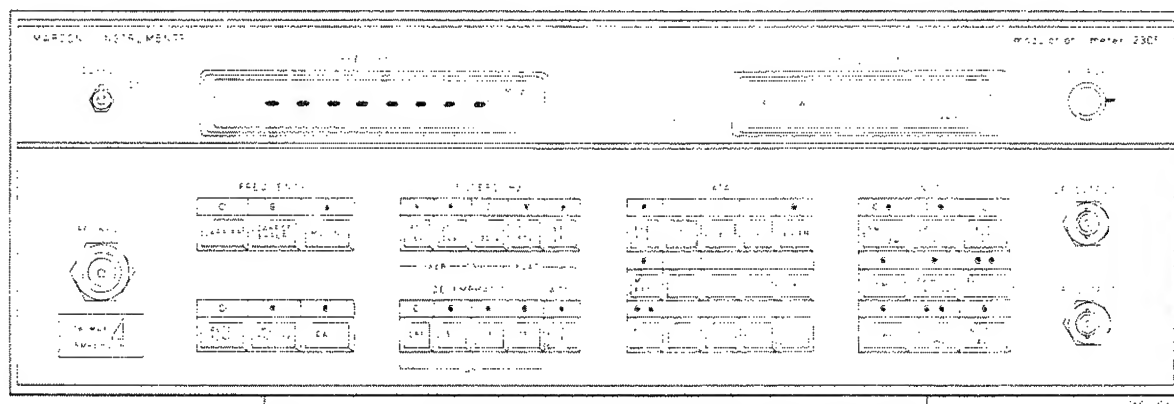

Fig. 1 2305 controls shown in standard power up status
2. The operational state of the instrument is indicated by the 'key active' lights together with any display annunciators which may be activated and by the display itself which may be of measured data or, possibly, one of a number of error codes indicating an irregularity of some sort. The simplest of these is the row of 8 dashes in the frequency window shown in Fig. 1 which indicates that the auto-tuning process has not yet produced an acceptable i.f. signal and this is the normal condition for an instrument which has been switched on without a signal connected. It is allocated the error code number 50 but this is the only error code not displayed in numerical form. The standard form of error display utilizes the two central digits in the frequency display. The two display windows are shown in full detail in Fig. 4 and Fig. 5.